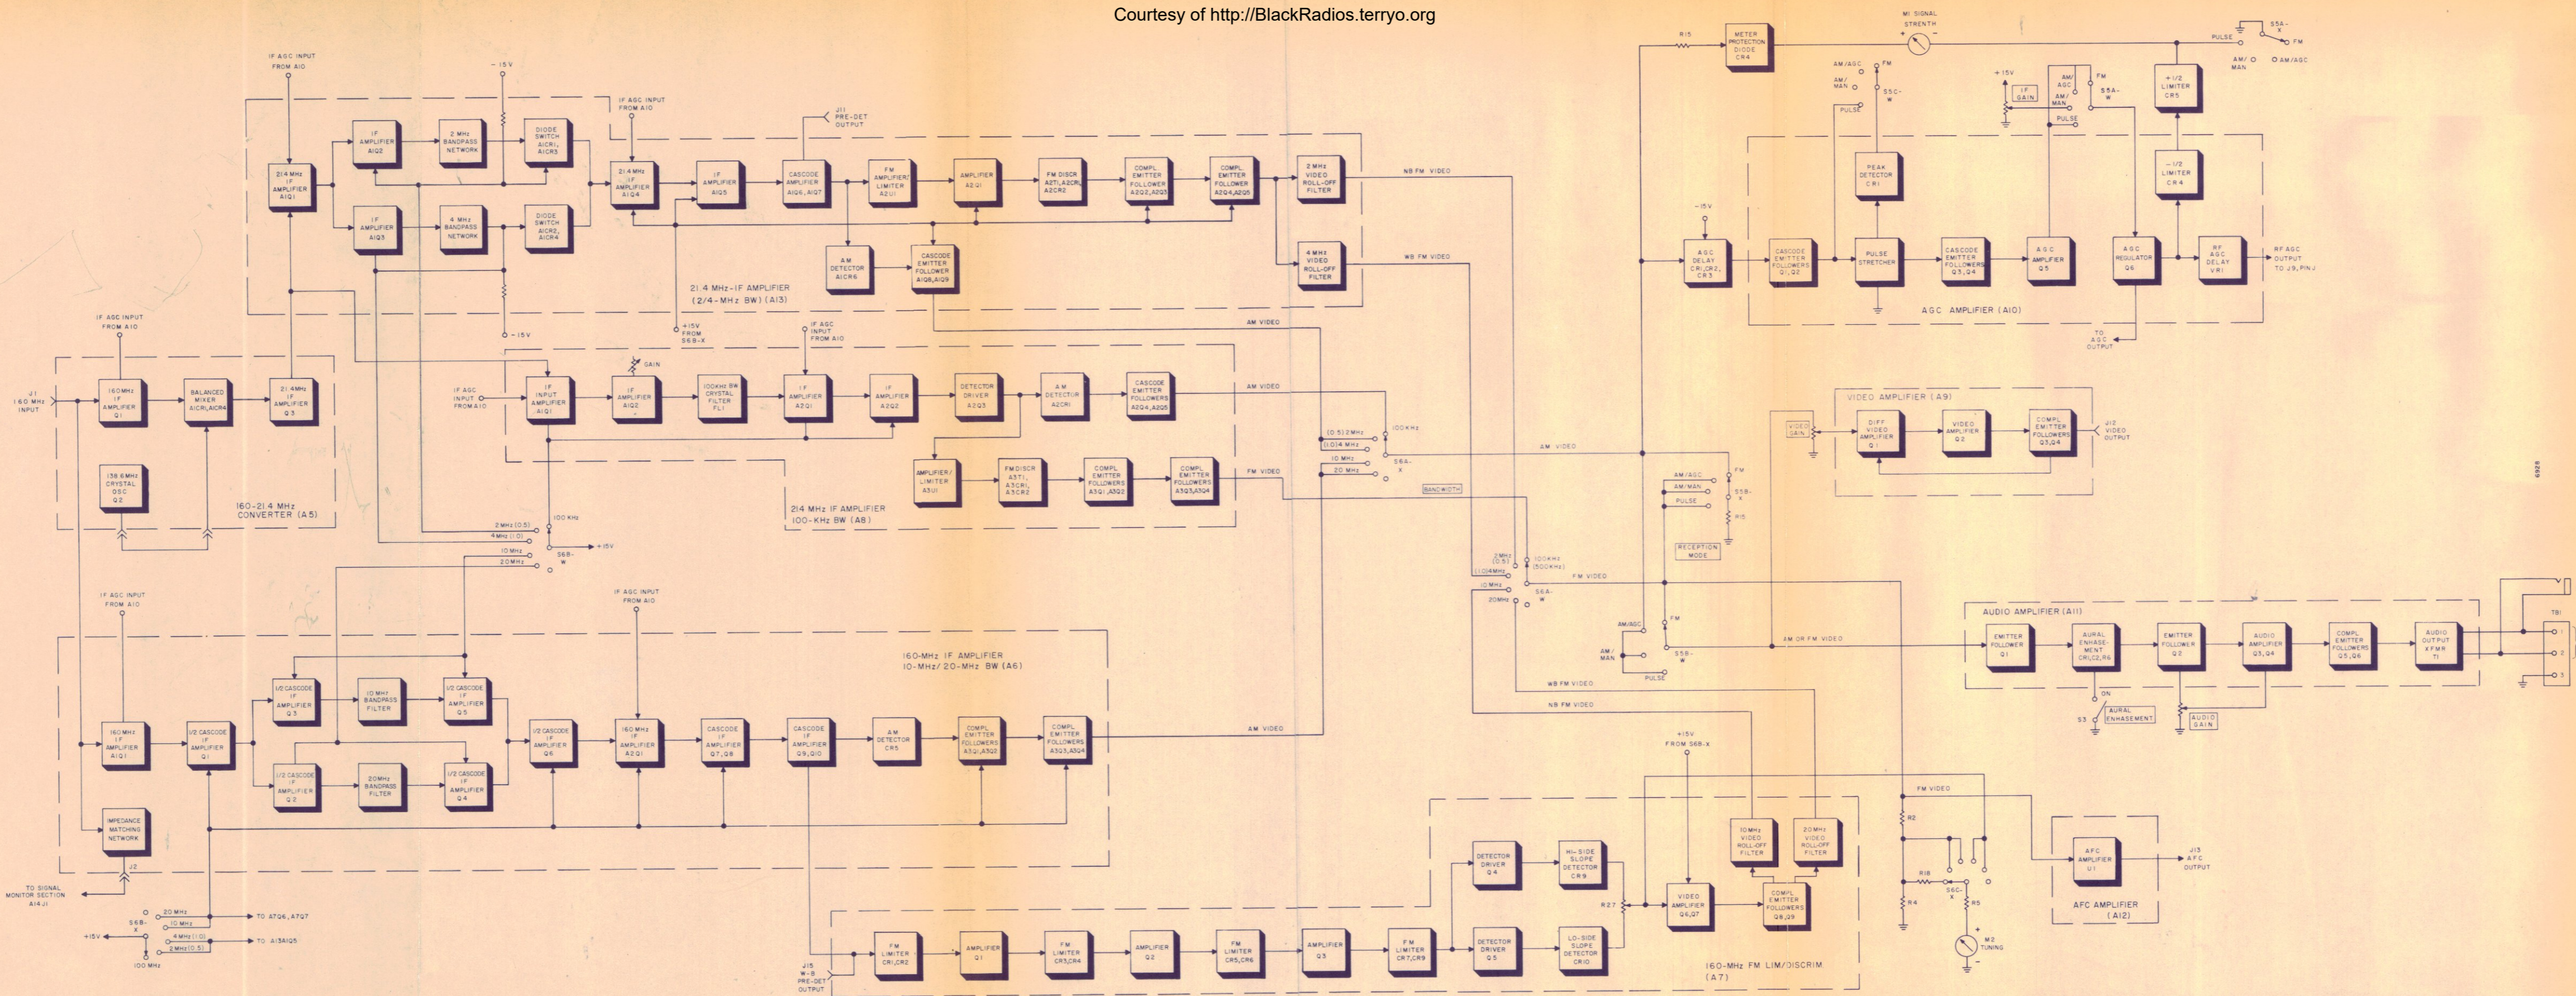

FIGURE 2-1a. TYPES DM-112 AND DM-112-1 DEMODULATORS, FUNCTIONAL BLOCK DIAGRAM
Circuit operation in the DM-112 and DM-112-1 Demodulators is explained in the following paragraphs. The functional description is oriented to the block diagrams (Figures 2-1a and 2-1b), while the detailed circuit descriptions refer to the relevant schematics in Section VI. Note that the unit numbering method is used. Thus, the complete designator for an electrical component located on a subassembly or module includes a prefix before the usual class letter and numbers of the item (e. g., A6A1Q1; A8R2). These prefixes are included in the text only when necessary to avoid ambiguity.
2.2.1 Demodulator Section. - For the functional block diagram of the demodulator section, refer to Figure 2-1a.